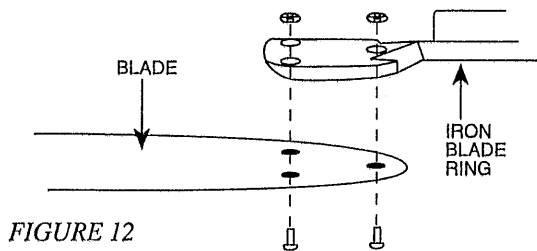

FIGURE 12
**A.** Assemble the blades to the blade iron ring, using the screws with the smooth heads and square shoulders under the head. Put the screws into the holes in the blade, set the blade on the blade iron ring and mount with the nuts provided. We have provided a wrench to tighten the nuts. See Figure 12.